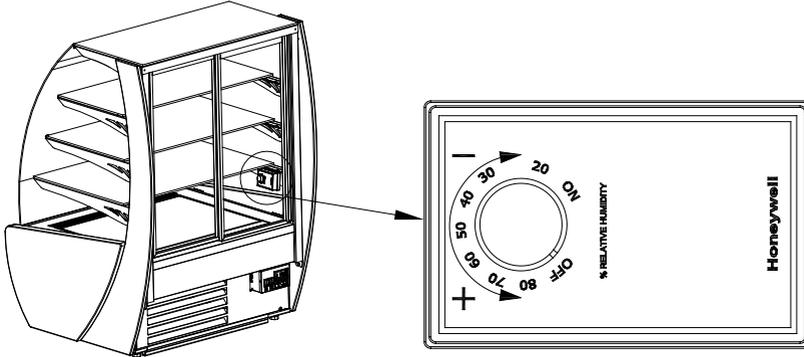

Fig.10 Humidistat
- For units equipped with a humidistat (not applicable to Carel units), you can set the desired humidity inside the unit using the wheel Fig. 10 (p.23) Within a temperature range from 10 ° C to 15 ° C, it is possible to control the humidity in the range of 30 to 80%.
The humidistat controls the humidity, when the temperature inside the display case is in the range of 10 °C to 15 °C. Using the wheel on the humidistat set the desired humidity in the display case ranging from 30 to 80% by turning it Fig. 10 (page 9) and setting it in the correct position. Rotating the wheel clockwise lowers the set humidity, and in the opposite direction increases it. Turning the wheel to the left, to the end position turns off the humidistat, despite the power being on.